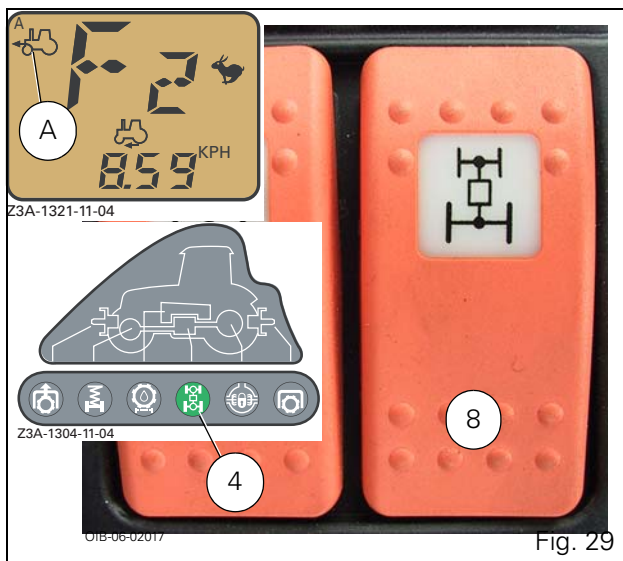

Fig. 29
At tractor start-up, the front axle is in automatic mode. To engage the front axle, press the switch (8 Fig. 29). The corresponding instrument panel indicator light comes on (4 Fig. 29) and the 4WD automatic mode symbol appears on the digital display (A Fig. 29).
To activate manual mode, first engage the front axle by pressing the switch (8 Fig. 29), then press this same switch again for 3 seconds. The indicator light (4) comes on and the front axle symbol in automatic mode disappears from the digital display.